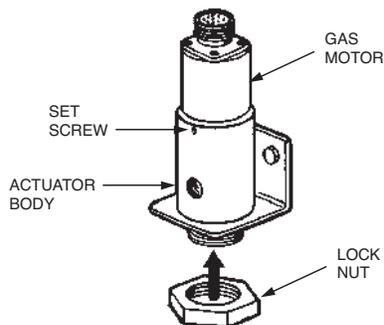

FIGURE 24
5. Remove locknut from gas motor body, position body in bracket hole and reinstall locknut. Wrench tighten. See Figure 24. **Note: For proper installation, make certain the gas motor is threaded fully, 6 threads, onto the actuator body and properly secured with the allen head set screw.**